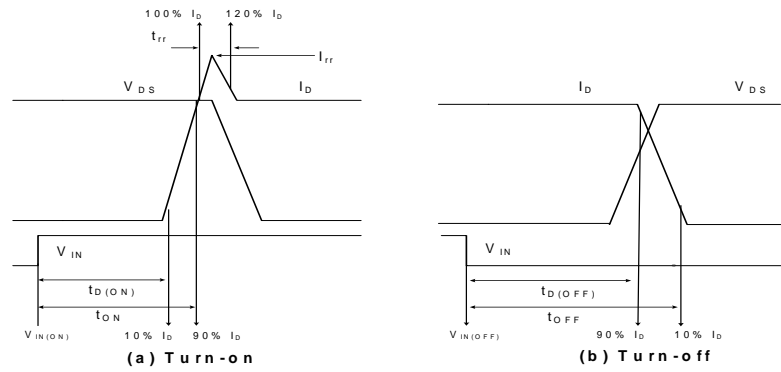
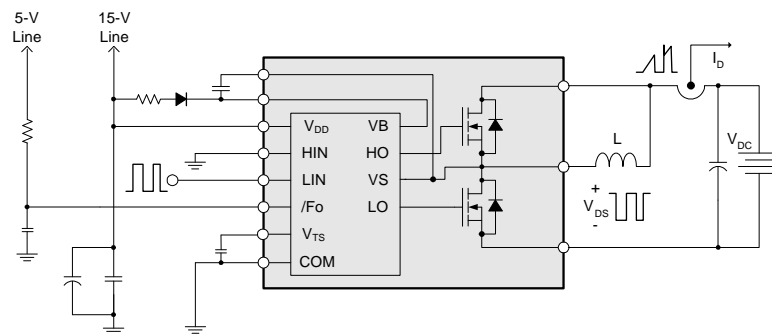

Figure 3. Switching Time Definition
Figure 4. Switching Test Circuit (Low-side)
- t_{ON} and t_{OFF} include the propagation delay of the internal drive IC. Listed values are measured at the laboratory test condition, and they can be different according to the field applications due to the effect of different printed circuit boards and wirings. Please see Figure 3 for the switching time definition with the switching test circuit of Figure 4.